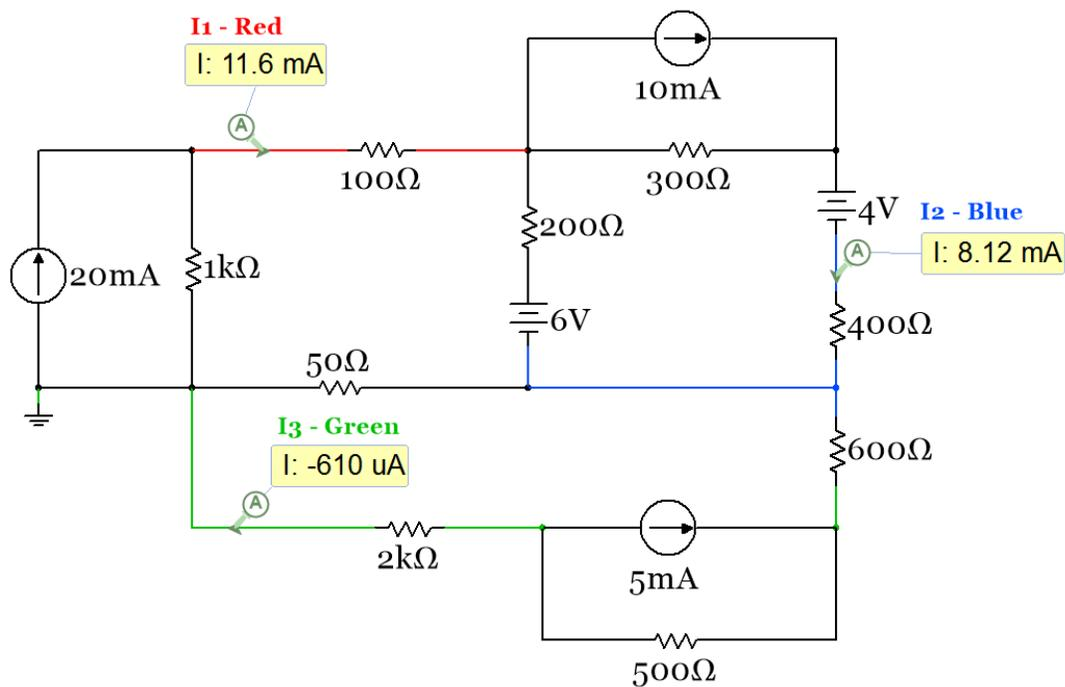

Figure 2.15: Circuit for example 2.8.
Example 2.8) Solve the circuit in Figure 2.15 for the 3 currents shown with the Multisim current probes using the Mesh Matrix Method. Source Transformations must be performed so that all sources are voltage sources.
- 3) The matrix in Figure 2.15 produces positive I_1 and I_2 values so those currents are clockwise. We will also assume I_3 is also clockwise, but it is calculated as negative which means it is counter-clockwise.